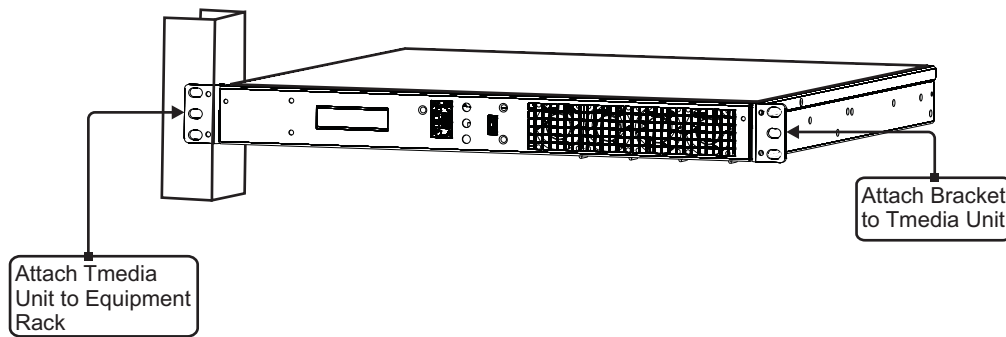

Figure 2.1 Mounting the TMG3200
1. Using two metal screws, attach one angle bracket to the front, left-hand side of the TMG3200 when viewed from the front, as shown in figure 2.1 on page 8. Repeat the same for the angle bracket on the right-hand side.